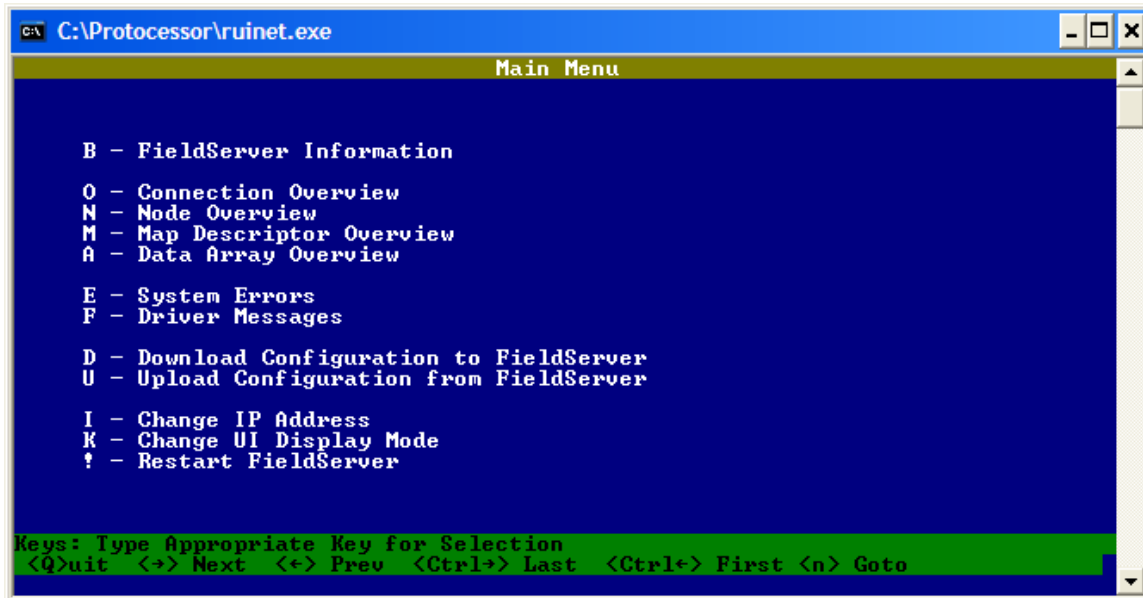

Figure 4: RUINET Main Menu
- 1) Connect a computer to the ProtoCessor using the RUINET application. For instructions on connecting a computer to the ProtoCessor, see the document: “*Connecting a computer to the HeatNet™ Bridge*”. You should see the RUINET Main Menu as shown in Figure 4.